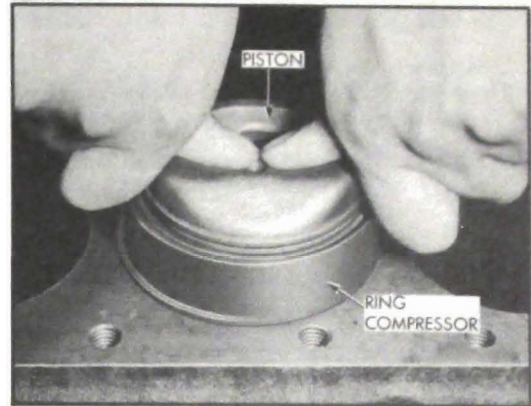

Figure 2-34—Snapping Piston into Cylinder Bore
7. Insert rod and piston assembly into cylinder bore with hollow side of piston toward camshaft. With ring compressor resting squarely on top of cylinder crankcase, snap the piston down into bore by using the thumbs as shown in figure 2-34. An alternate method is to grip the compressor firmly as if to close the gap, then lightly tap the piston down with a hammer handle. If the piston does not enter cylinder bore without excessive force, remove the assembly and check for the cause.